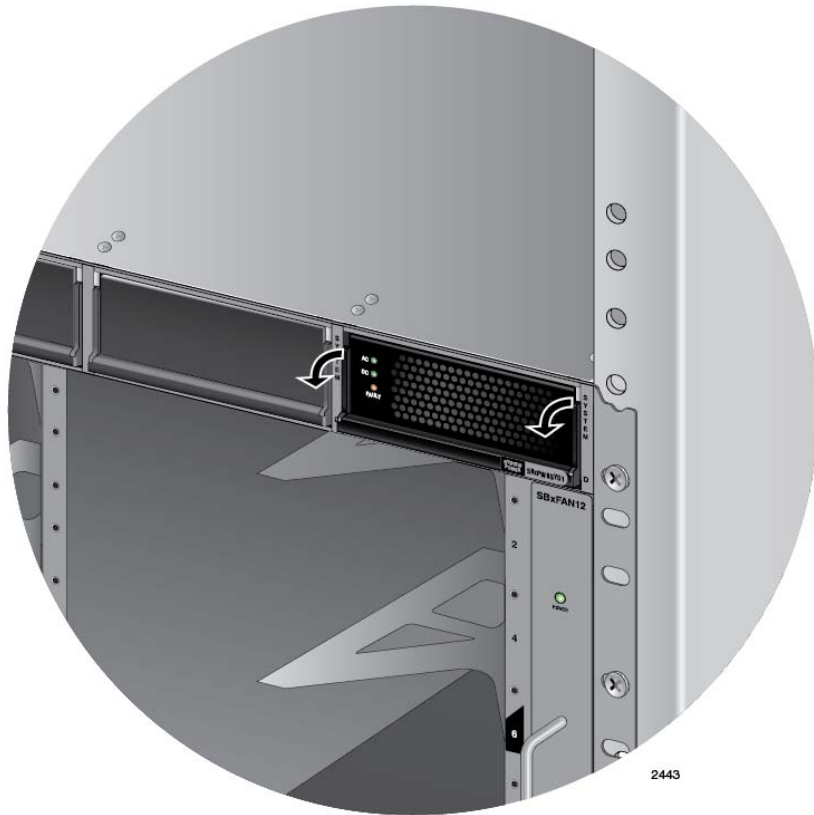

Figure 48. Lowering the Handle on the AT-SBxPWRSYS1 Power Supply
7. Lower the power supply locking handle to secure the power supply to the chassis, as shown in Figure 48.